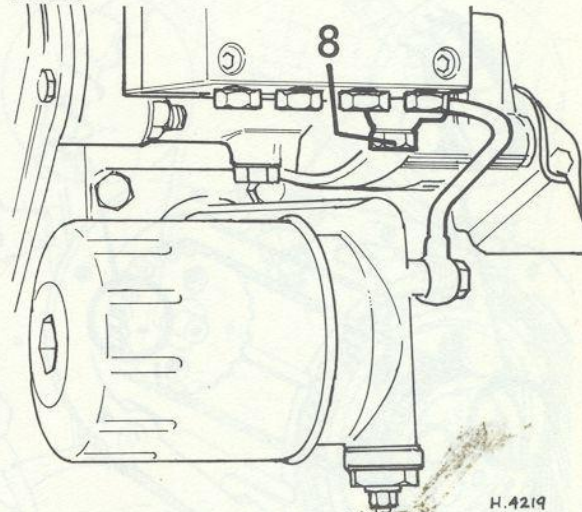

Fig 3.34 Location of oil line between injection pump and filter (Sec 37)
3 On KF5/XN2 installations there is an oil line between the oil filter mounting and the pump (Fig. 3.34).
12 When the engine is running, bleed the oil line (Fig. 3.34) by slackening the upper connector (8) until oil runs steadily past it and then fully tighten.